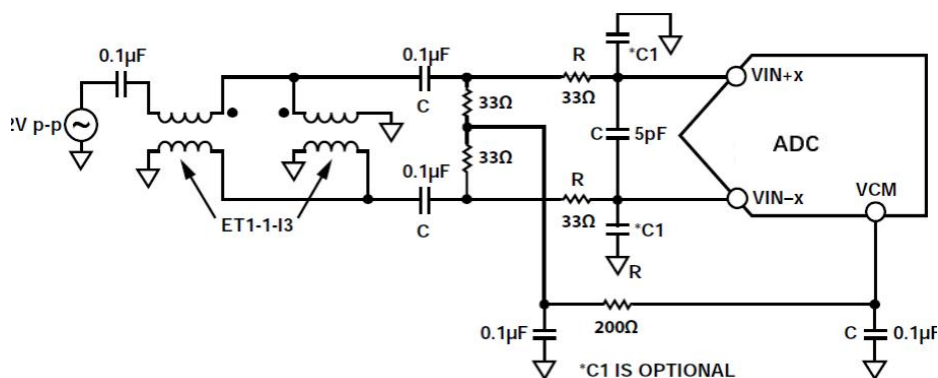
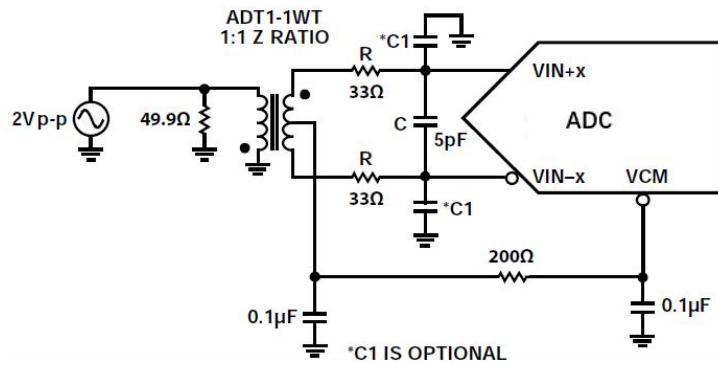

Figure 9. Differential dual balun input configuration (for baseband applications)
Figure 10. Differential transformer coupling configuration (for baseband applications)
Optimum performance can be achieved by driving the analog inputs differentially. For baseband applications, using a differential double balun configuration to drive the device provides excellent performance and a flexible interface for the ADC, as shown in Figure 9. In applications where SNR is a critical parameter, differential transformer coupling is recommended in the input configuration, as shown in Figure 10, because the noise performance of most amplifiers is insufficient to realize the true performance of the device. Regardless of the configuration used, the series resistor (R) and shunt capacitor (C) values depend on the input signal frequency. For high-to-mid frequency inputs, it may be necessary to reduce or even remove these components. Driving the device inputs in a single-ended manner is not recommended.